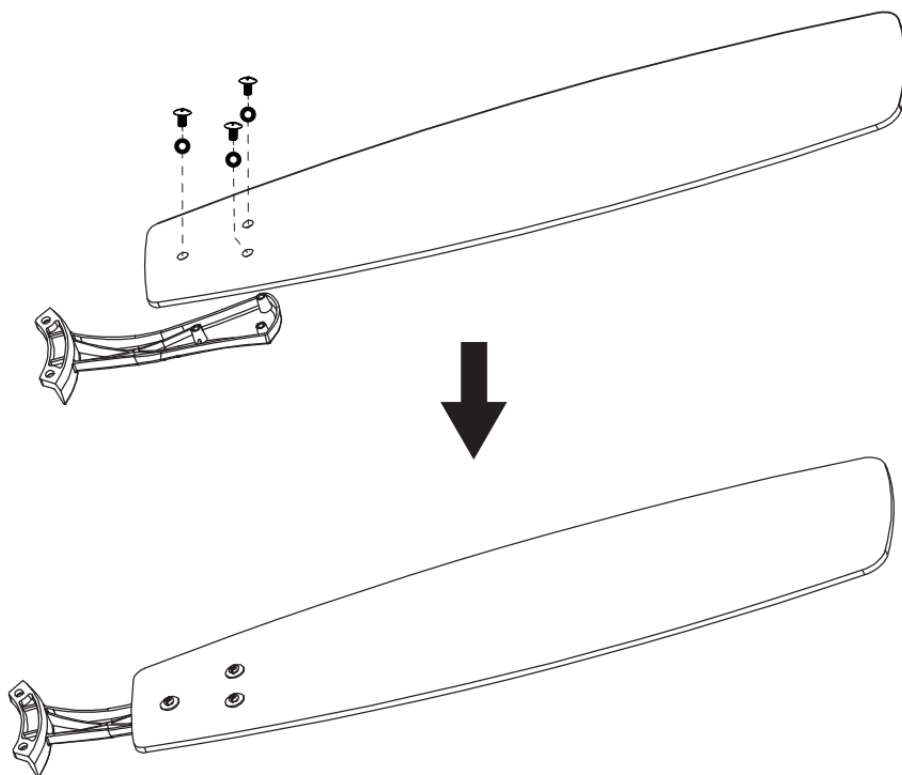

Fig. 5.1
1. Assemble the fan blades to the fan blade bracket by tightening the 3 blade screws and washers. (Fig. 5.1).